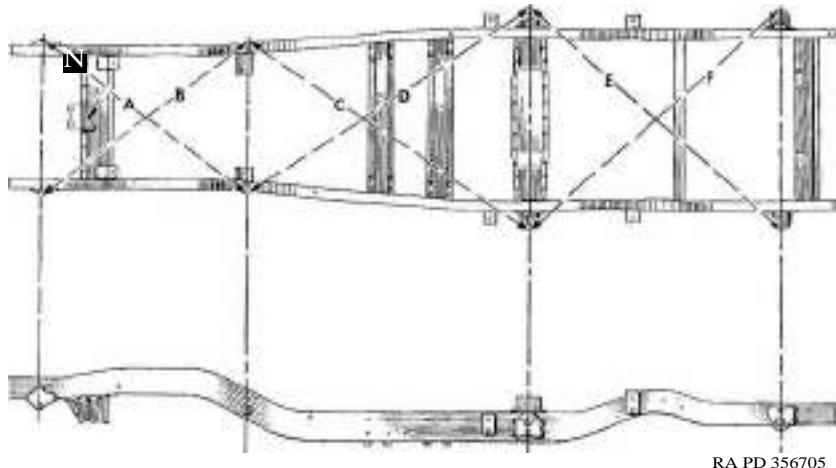

Figure 178. Frame diagonal measurements.
- (1) Inspect frame side rails for cracks, breakage, or damage. If the frame side rails are cracked, broken, or damaged, they can be repaired as described in *b* below.
- (2) If inspection of the frame side rails indicates any evidence of misalignment, measure distance between points indicated by diagonal lines A and B, C and D, and E and F (fig. 178). If distance between points indicated by any pair of diagonal lines varies more than one-quarter inch, the frame is not in proper alignment.